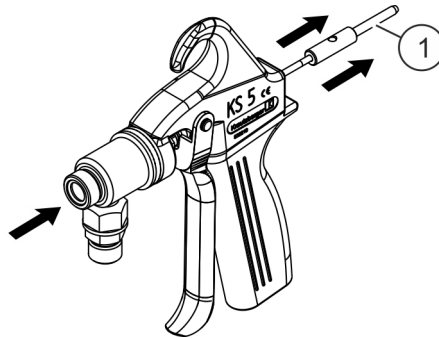

Fig. 10: Push out complete valve needle
5. ➔ Push the valve needle (Fig. 10/1) back using a suitably shaped (but not sharp-edged) object, for example made of wood or plastic.